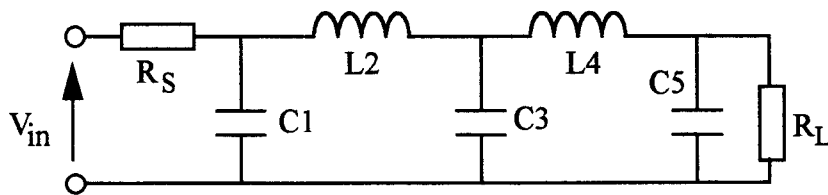

Figure 1a
1. *Figure 1a* shows a doubly-terminated passive LC-ladder lowpass filter. Give two advantages of the LC-ladder approach for implementing continuous-time filters. State two reasons why passive LC ladders are generally unsuitable for implementing fully-integrated filters. By constructing a signal flow graph of the ladder topology shown in *Figure 1a*, outline how this filter can be transformed into a topology suitable for integration, and sketch a block diagram of the resulting filter architecture. What is the advantage of transforming an LC ladder filter in this way rather than selecting an alternative architecture such as a cascade of biquads?